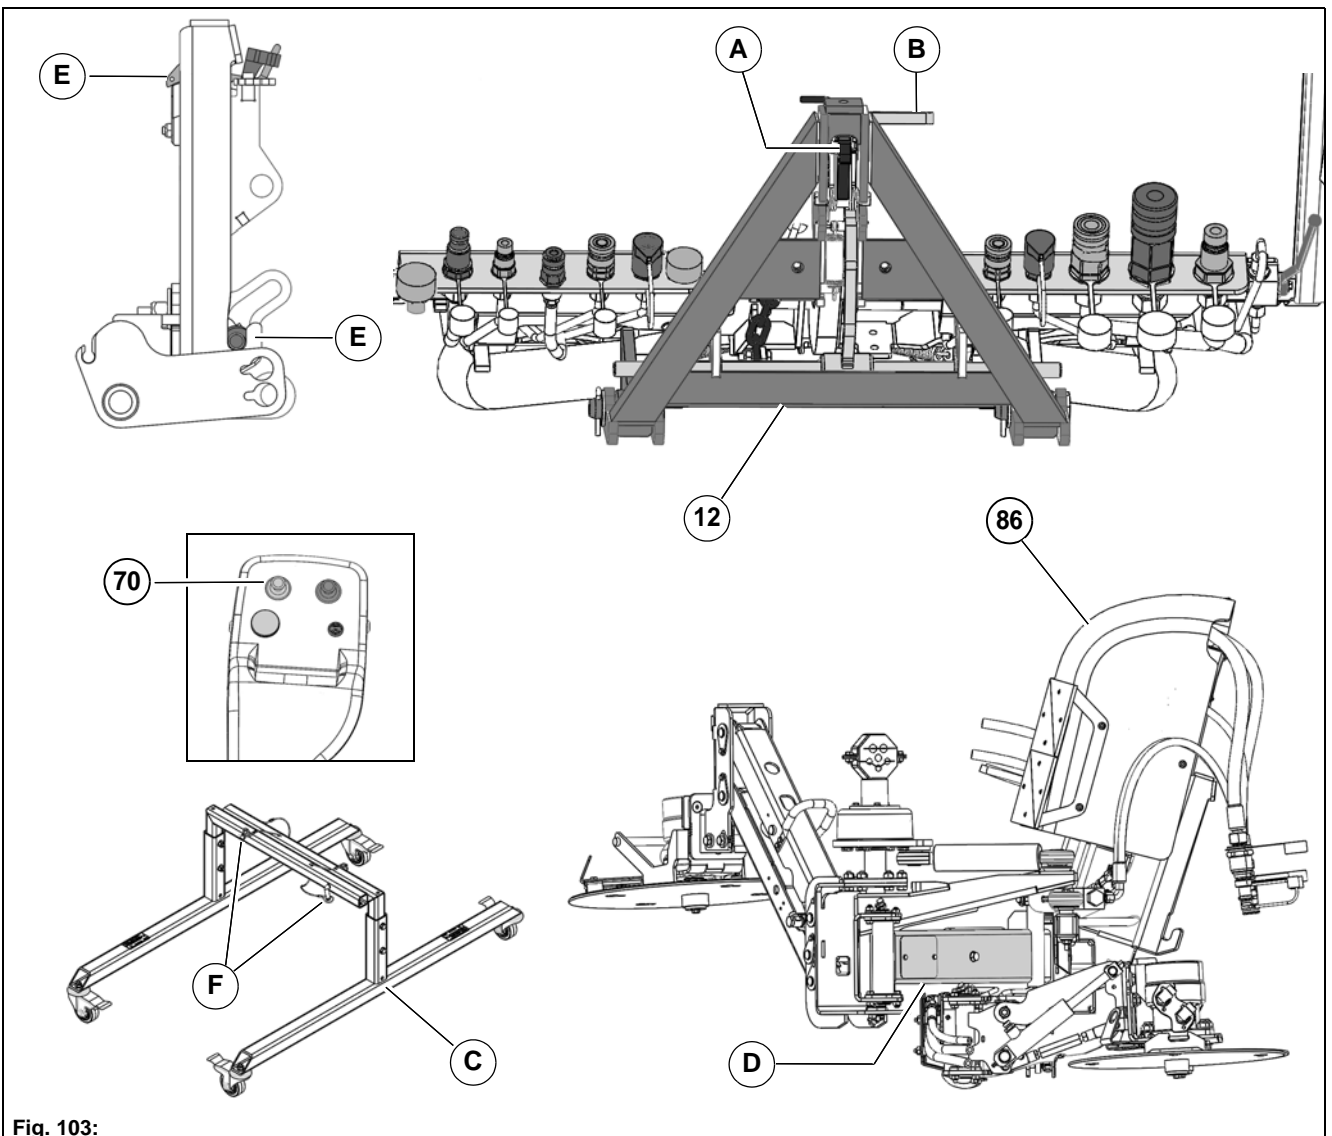

Fig. 103:
1. Unlock the locking hook **Fig. 103-A** and locking rod **Fig. 103-B** on the front tool carrier **Fig. 103-12**. Lower the front tool carrier with the joystick **Fig. 103-70**.
2. With the trolley **Fig. 103-C** (optional), align the sweeping unit **Fig. 103-86** centrally and in alignment with the front tool carrier.
3. With an adjustable upper link (optional), set the standard length, see page 64 (Set the arm **Fig. 103-D** of the sweeping unit parallel to the floor).
5. Lock the sweeping unit with the locking hook and locking rod. Check the backlash on the locking hook, see **Fig. 103-E**, adjust if necessary with elongated holes.
6. Disassemble the bolts **Fig. 103-F** of the trolley and pull the trolley out from the sweeping unit.